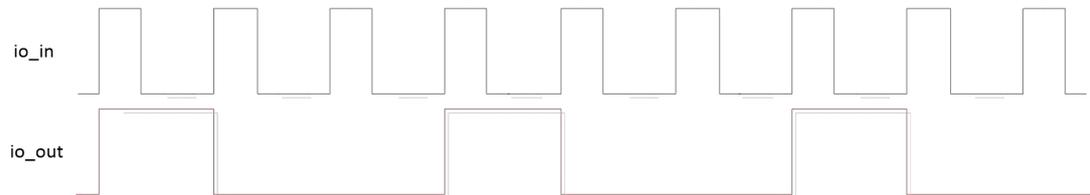
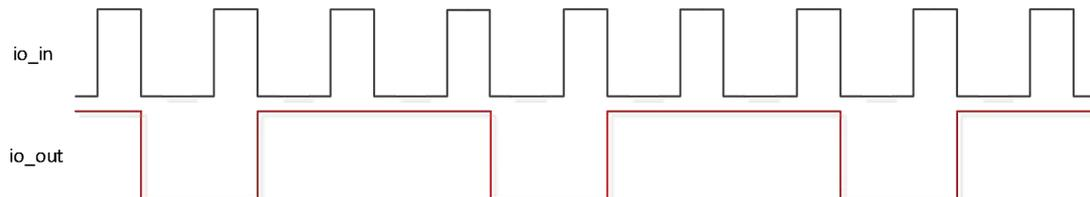

Figure 22 Rising edge alignment
Figure 23 Falling edge alignment
- When io\_in is uniformly period-distributed, io\_out is a non-equal-duty waveform after odd frequency division, as shown in Fig. 22, Fig. 23.